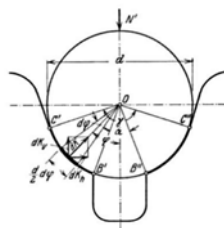

Figure 3 The determination of the size of the contact forces [1]
The derivation starts by determining the equilibrium conditions for a finite rope element, which is under the influence of the contact forces between rope and groove and the compressive force (Fig. 3). This gives the possibility to derive the magnitude of compressive force and, based on the relationship imposed by the four earlier assumptions, to determine the relationship (Eq. 3) between pressure, rope tension (S), groove geometry and the diameters of the rope (d) and the undercut traction sheave (D). To solve the formula for the friction force against rope slip (W), this is then integrated over the entire contact length (Eq. 4).